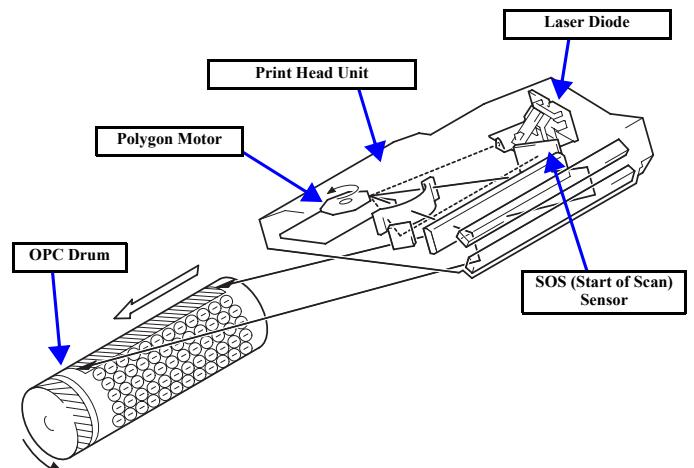

Figure 2-8. Exposure Process
- The laser beam from the print head creates an electrostatic latent image on the OPC drum surface. (See "Figure 2-8")